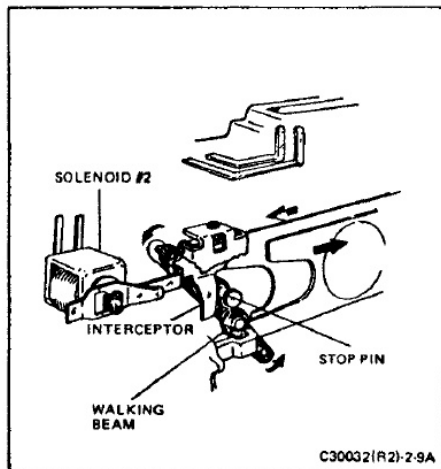

FIGURE 2-9A SOLENOID S2 OPERATION
- Installing a flash bar in the camera flash socket switches the ECM to the flash mode. As previously explained, at a point in the picture taking sequence (flash mode), solenoid #2 is energized. Fastened to the plunger is the pull down bar. When the plunger pulls this bar down, it moves the interceptor into the position where it will intercept a pin (the stop pin) on the walking beam (Figure 2-9A). Now when the shutter blades move towards the open position, they will be interrupted by the mechanism just described which means that the maximum size of the blade opening (aperture) is determined by the focus setting of the camera. As the camera (and thus the flash lamp) is moved closer to the subject, the maximum aperture is reduced so that a correct exposure will result. The reverse (greater distance/greater aperture) is also true.